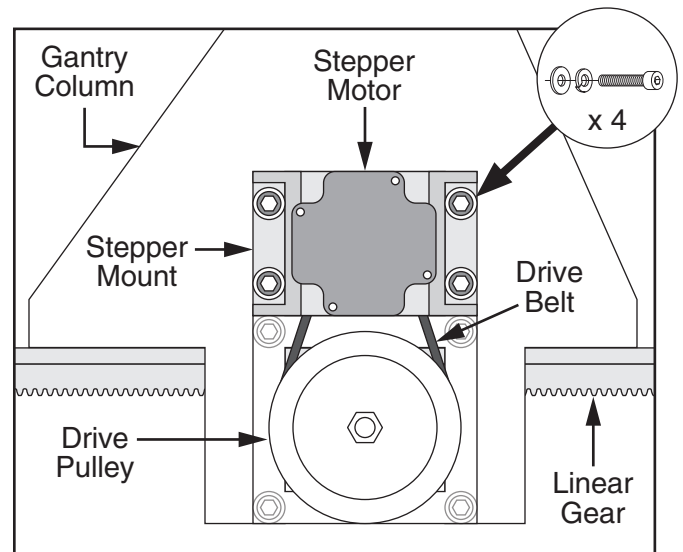

Figure 19. Gantry column components location.
3. Install (1) stepper motor on either gantry column using (4) M8-1.25 x 24 cap screws, 8mm lock washers, and 8mm flat washers pre-installed on gantry column (see **Figure 19**). DO NOT fully tighten cap screws at this time.
4. Fully seat drive belt on drive pulley (see **Figure 19**), then roll drive belt onto stepper motor pulley.
5. Lift stepper mount to tension drive belt, then tighten cap screws installed in **Step 3** (see **Figure 19**).